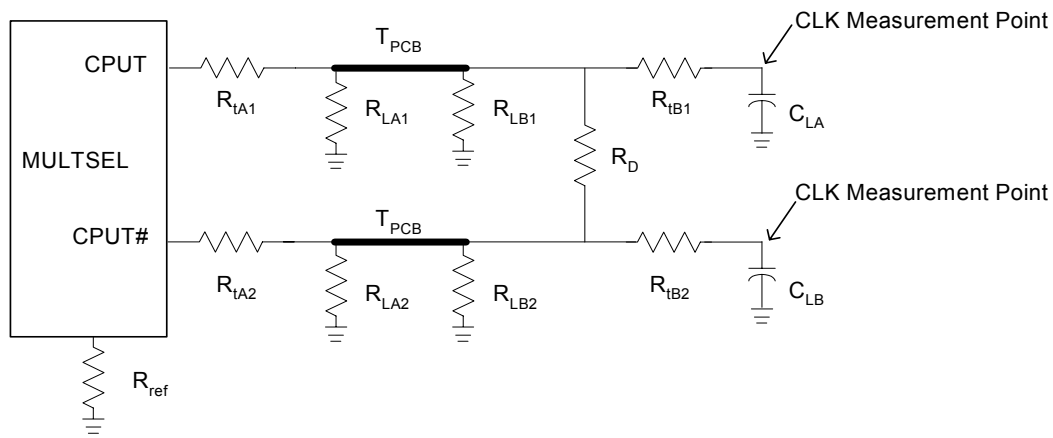

Figure 10. P4 Load Termination
CPUT/C	See Figure 10
- See *Figure 10* for 0.7V loading specification.